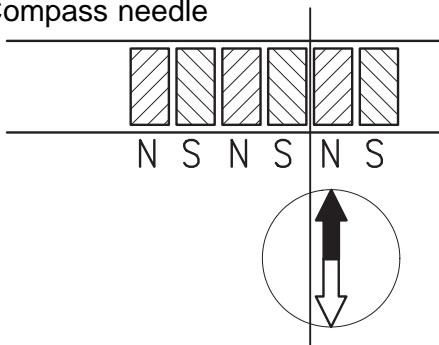

Fig. 11: Determination of the pole position. Cutting of the magnetic strip.
- If necessary, use a compass needle to determine the location of the poles on the magnetic strip (fig. 11).